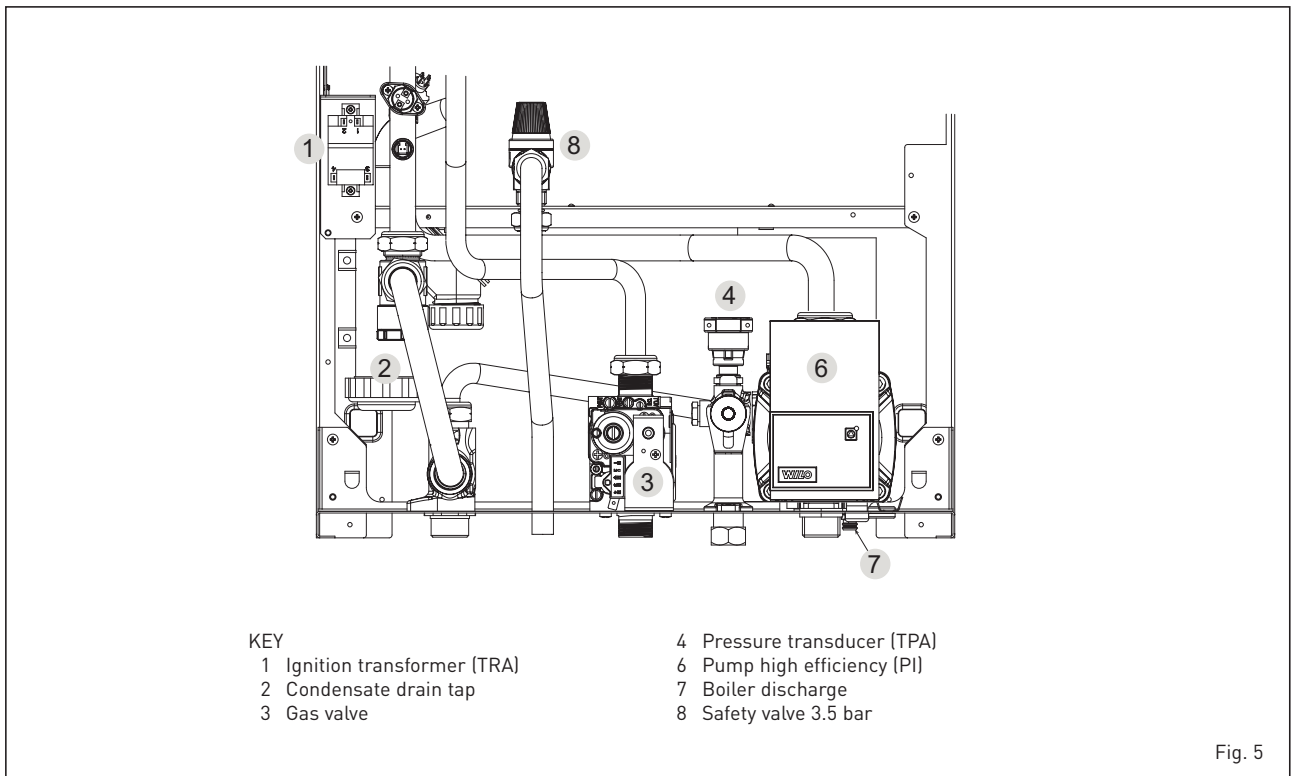

Fig. 5
2.4 INITIAL PHASE SYSTEM FILLING (fig. 5)
2.4.1 System draining (fig. 5)
isolate the flow and return, and use the boiler drain vent (5 fig. 5).
2.4.3 Requirements for sealed water systems MURELLE HE 35 R ErP (fig. 5/b)